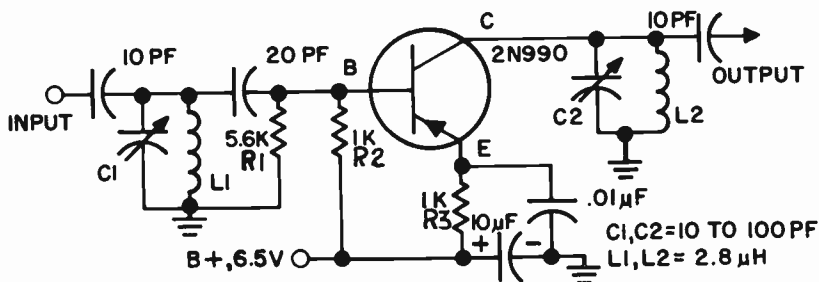

FIG. 13-5. A TRANSISTORIZED COMMON EMITTER AMPLIFIER.
**3 TRANSISTORIZED RF AMPLIFIER.** Fig. 13-5 shows a transistorized RF amplifier with component values. The amplifier is designed to amplify a 10 MHz. signal. It is of the common emitter type. L1 and C1 represent the input tank circuit; L2 and C2 represent the output tank circuit. Resistor R3 is the emitter resistor that is used for stabilization. Bias is obtained from the base divider combination consisting of R1 and R2.